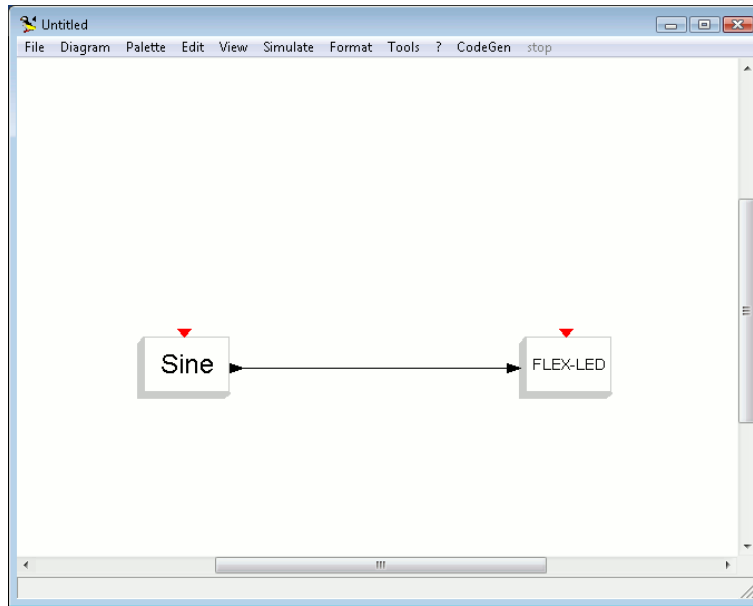

Figure 5.8: Sine and LED are now linked.
9. Link the black triangle of the **Sine** block to the black triangle of the LED block. To do that, press **l**, then single click on the triangle of the **Sine** block (the *source*), then click again on the triangle of the LED block (the *sink*). See Figure 5.8.